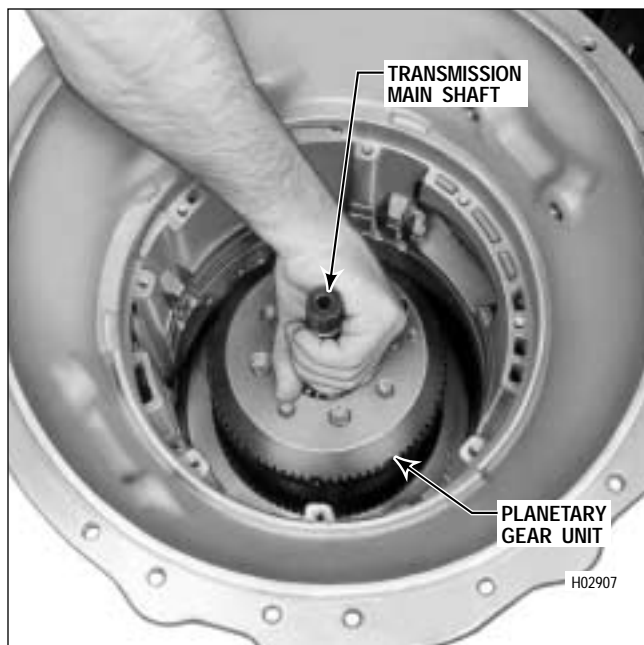

Figure 5-20. Removing Planetary Gear Unit
(2) Grasp the transmission main shaft, and lift the planetary gear unit out of the transmission case (Figure 5-20).
(3) Refer to Paragraph 6-11 for rebuild of the planetary gear unit.